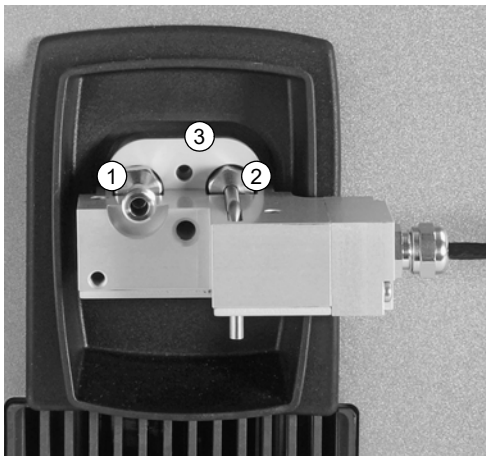

Fig. 3: Lower part of the heater unit attached
3. Screw the Luer-lock adapter (1, fig. 3) from the syringe heating accessories into the left-hand thread and tighten the nut by hand.
6. Screw the outlet tubing (2, fig. 3) from the syringe heating accessories into the right-hand thread and tighten the nut by hand.
10. Attach the lower part of the heater unit, see fig. 3. Support it with your hand.